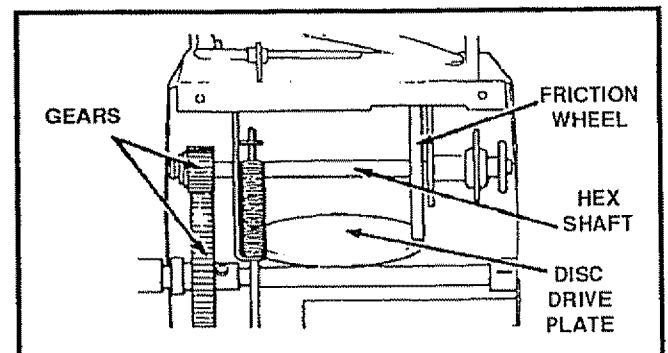

FIG.17
- Hex Shaft and Gears - Hex shaft and gears require no lubrication. All bearings and bushings are lifetime lubricated and require no maintenance (See Fig. 17).
**NOTE:** For storage, the hex shaft and gears should be wiped with 10W-30 motor oil to prevent rusting (See Fig. 17).